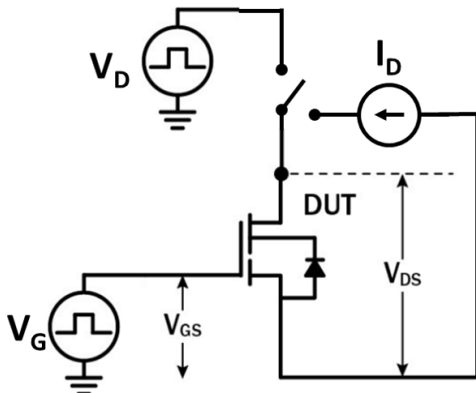

Figure 18. Dynamic $R_{DS(on)eff}$ Test Circuit
- g. Dynamic R_{DS(on)}, 100% tested; see Figures 18 and 19 for conditions